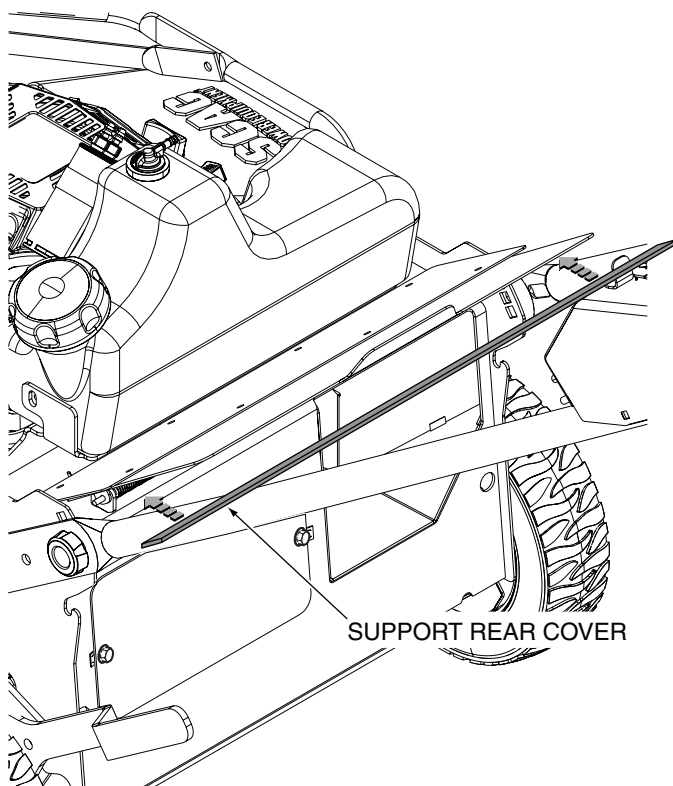

Figure 6-6. Lift and Support Rear Cover
4. Using a piece of scrap material, broom handle or other object wider than the handle bars, lift and support the rear cover to gain access to the rear of the mower. See Figure 6-6.